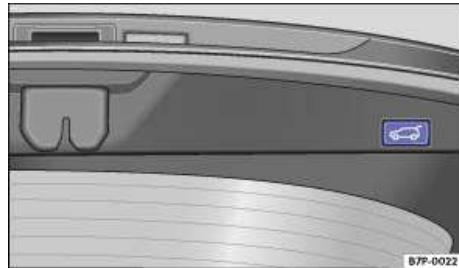

Fig. 32 Button in the open rear hatch.
- **OR:** Press the button in the open rear hatch ⇒ fig. 32 ⇒ .
- Press the ⇒ fig. 32 button in the open rear hatch ⇒ for at least 3 seconds. This saves the opening angle.
- Press the ⇒ fig. 32 button in the open rear hatch for at least 3 seconds.